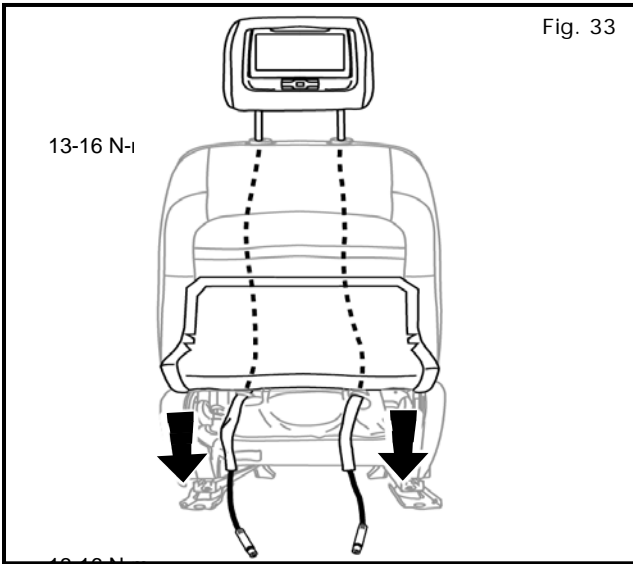

Fig. 33
20.12) Insert **Passenger** DVD headrest posts into seat post guides. Lock DVD headrest into its highest position (Bottom-Most Notch). Figure 33
20.13) Pull on two headrest cables from seat bottom to remove all slack. Figure 33